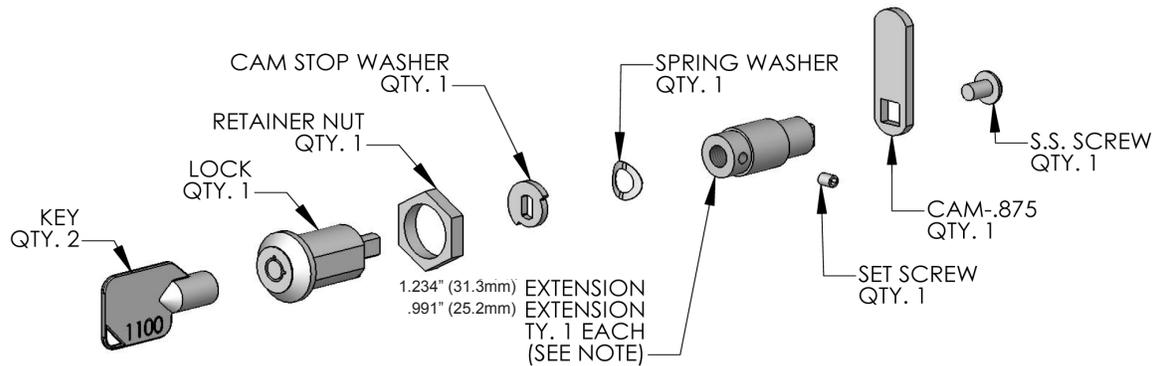

Figure 11
Two (2) lock extensions are supplied with the lock. Use the longer extension for a $\frac{3}{4}$ " thick overlay panel and the shorter one for a $\frac{5}{8}$ " thick panel. Assemble the lock extension, cam stop washer, spring washer, and set screw to the lock as shown in Figure 11 and 12.